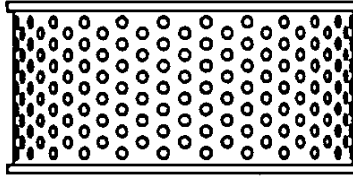

Figure 6-1 – AIR FILTER
STANDARD DUTY AIR FILTER (Figure 6-1) - Replacement instructions are given in the following sections:
4. Remove the air filter cover (Figure 6-1).